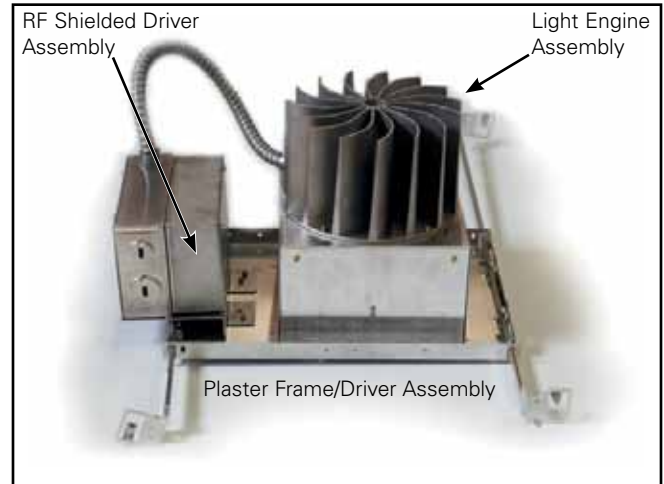

Figure 1. F6MRI LED Lighting System
- Figure 1. F6MRI LED Lighting System 5